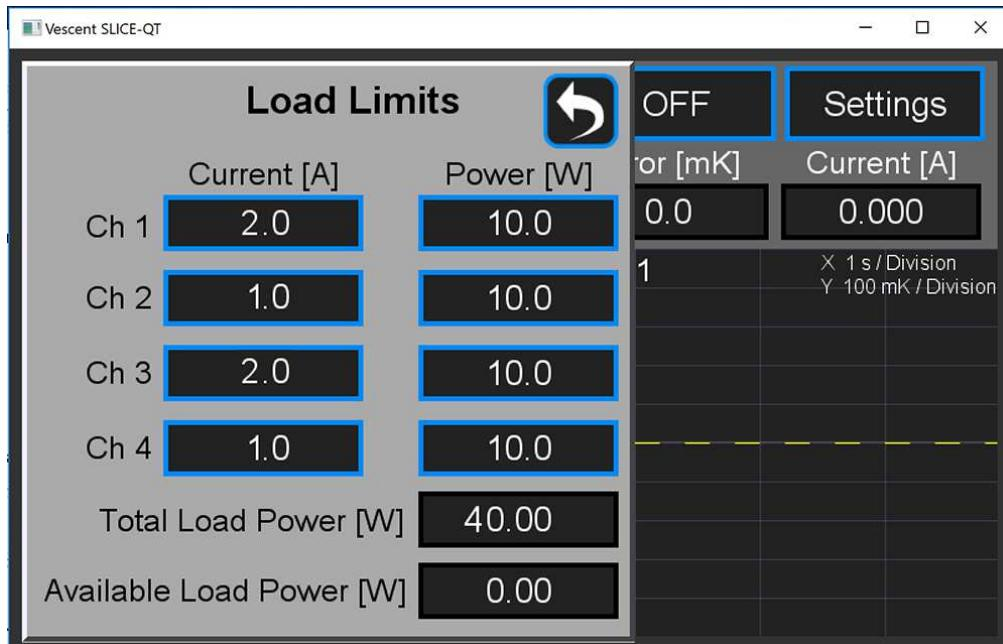

Figure 5. SLICE-QTC GUI screen for setting power and current parameters.
9. Manage the power and/or current capacity of the loop. The SLICE-QTC allows the user to set the maximum current and/or power delivered to the transducer (Figure 5). Ensure that sufficient current & power are delegated to the given channel.